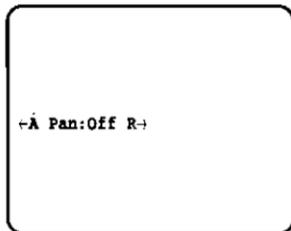

Fig. 15
1. Display the Pan Menu as shown in Fig. 15 by repeating the previous procedures.